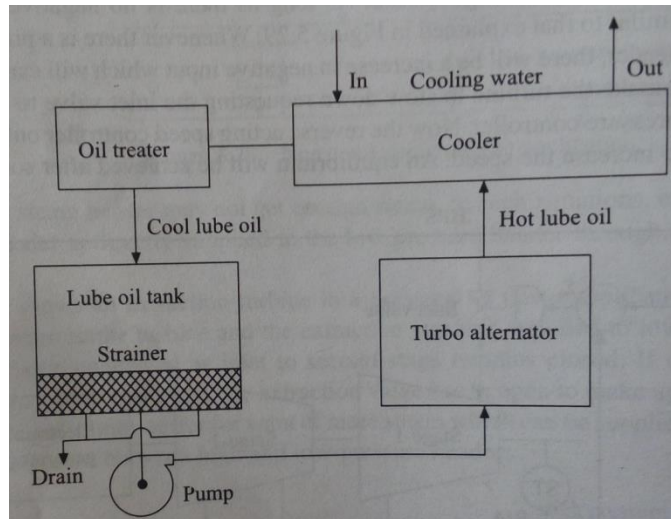

Figure 15 Lubrication System for Turbo-Alternator
- ❖ The block diagram of a lubrication system for turbo-alternator is shown in figure 15